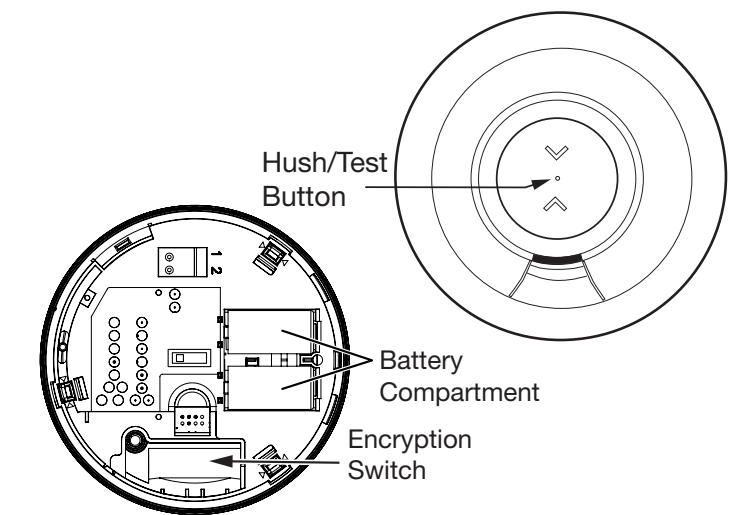

Figure 1. Wireless Smoke Heat Detector
The sensor is capable of transmitting signals in Encrypted mode or Non-encrypted Mode. The mode is set through a switch inside the sensor. (See Figure 1).
2. Locate the dip switch on the circuit board (Figure 1) and note the switch setting: ON indicates encrypted, and 1 is non-encrypted mode. Move the switch position to ON for encrypted mode.
- Push and hold the test button until the Detector sounds and the red LED flashes (see **Figure 1**). The Detector will stop sounding shortly after the button is released. The alarm panel will trigger and into alarm. The sounder begins the temporal 3 pattern and the red LED blinks. The alarm panel's console should display the Detector's name in alarm.